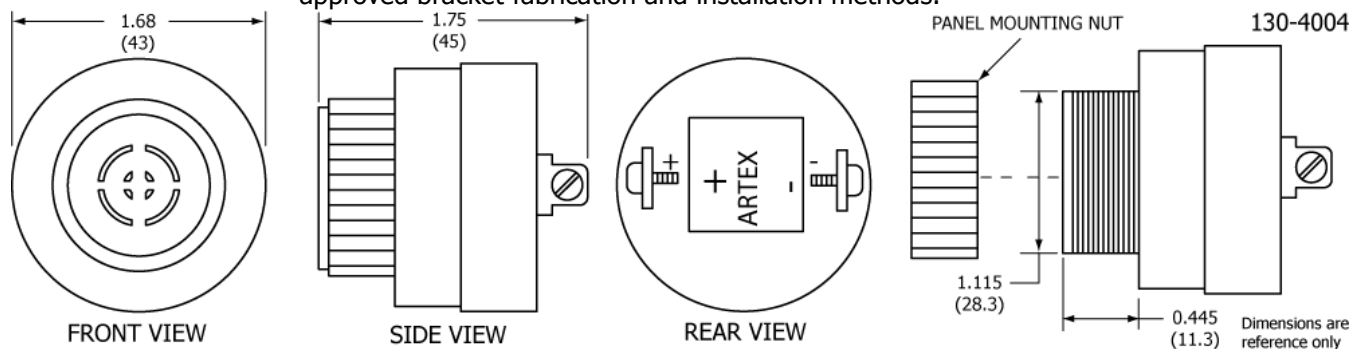

Figure 18 Buzzer Outline and Dimensions
- 1) Fabricate a bracket suitable for supporting the buzzer. Buzzer dimensions are shown in Figure 18.